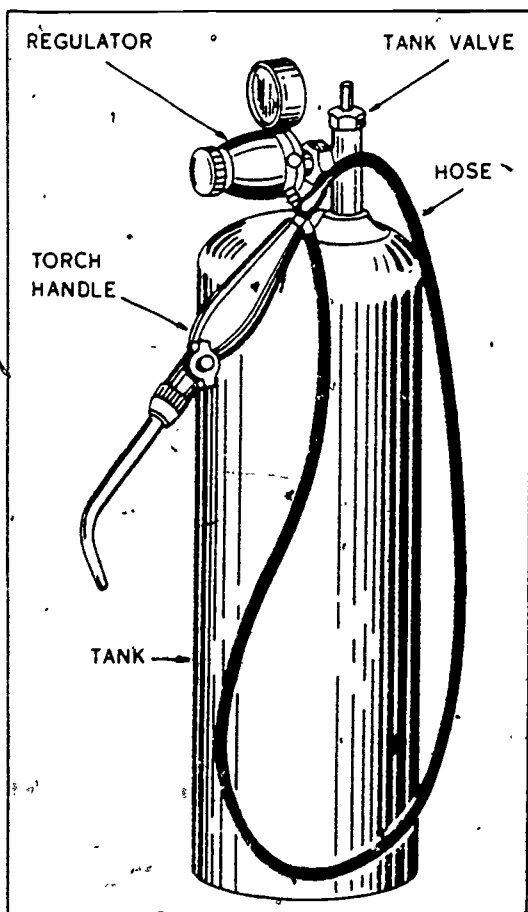

Figure 3-39 Acetylene torch
**Acetylene torch.** The torch illustrated in figure 3-39 is used to solder copper pipe. It may also be used for other purposes around the job. You should wear goggles when using the torch. Never use acetylene at a pressure greater than 15 pounds per square inch. Never lay the torch down and walk off, leaving it burning. Never transfer acetylene from one cylinder to another. A propane torch is similar to the acetylene torch and is used for soldering small diameter copper tubing. It may also be used to thaw frozen pipe.